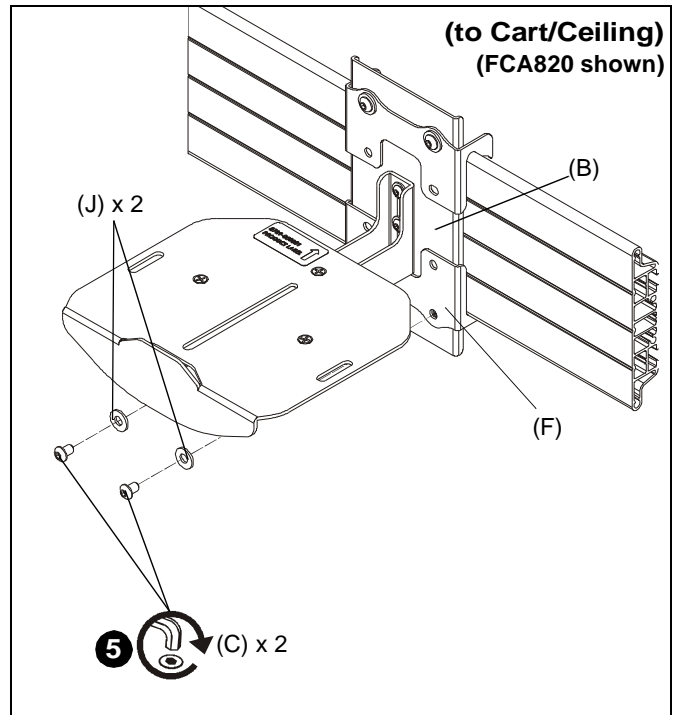

Figure 4
5. Use two 1/4-20 x 3/8" button head cap screws (C) and two 1/4" washers (J) to attach the other center holder (F) to center plate (B). (See Figure 4)